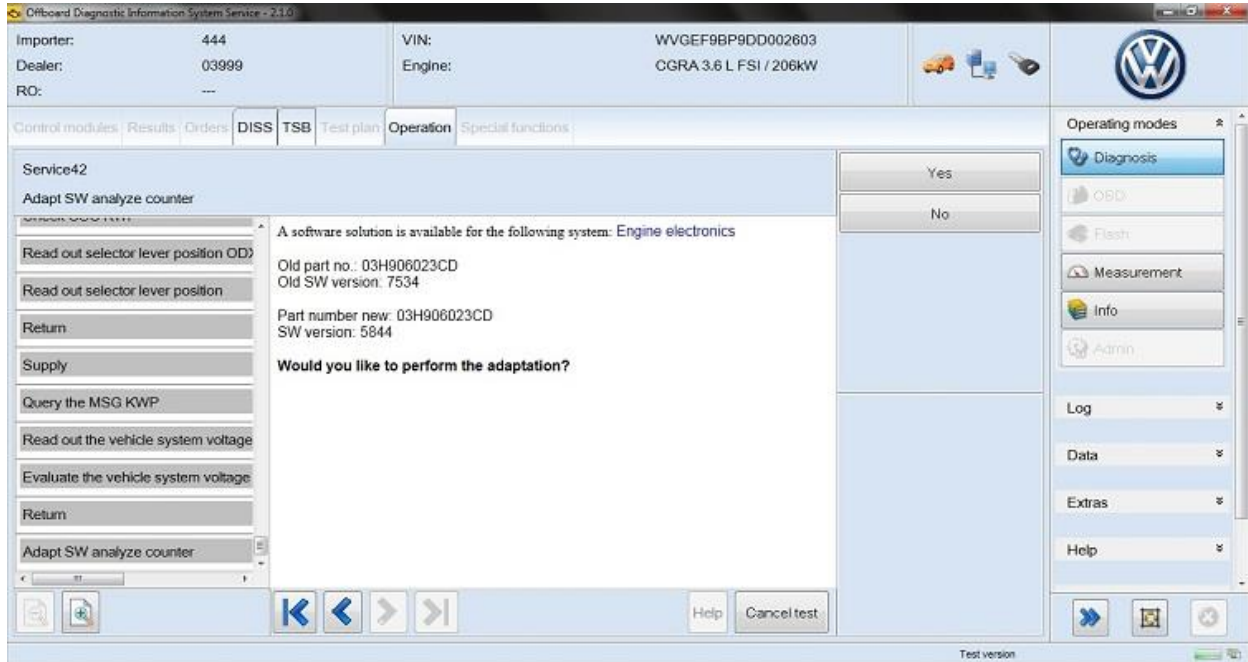

Figure 6
12. Select "Yes" to perform adaptation (Figure 6).